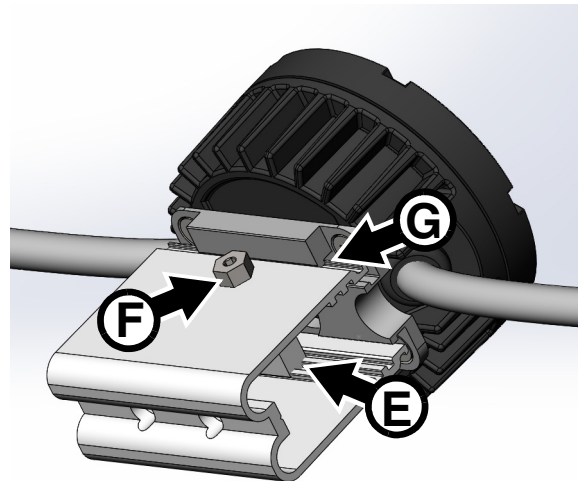

Figure 5: Installing a dot on a mounting profile
7. See Figure 5. Clip the dot onto the mounting profile so that the lips on the mounting bracket engage in the channels on both sides of the profile as shown at **G**.